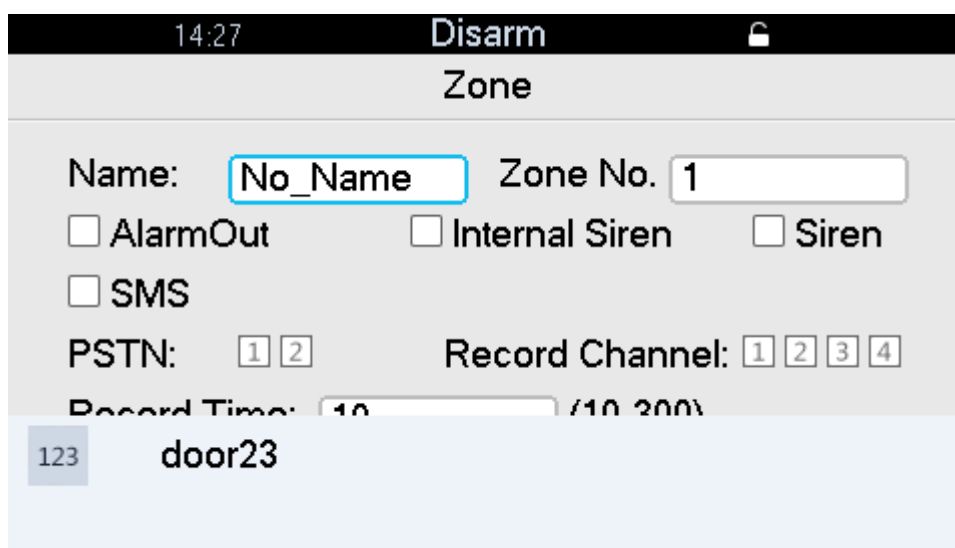

Figure 4-48
Step 2 Press [\*/] to switch to numeric input status, press numeric keys to input “12”, as shown in Figure 4-48.